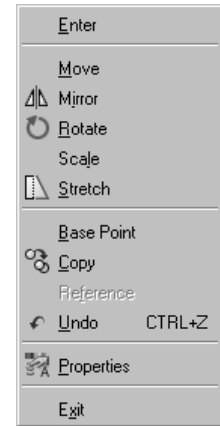
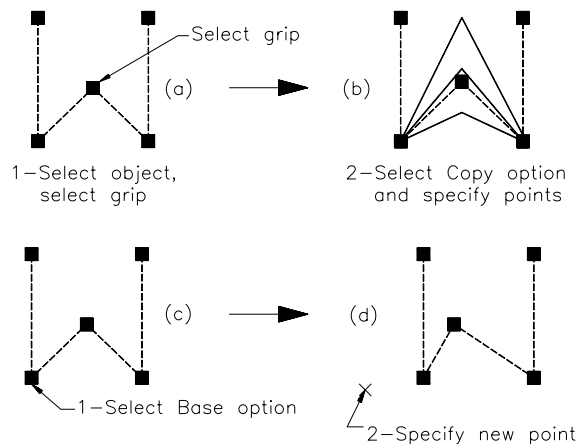

Figure 6-8 Shortcut menu with editing options
Figure 6-9 Using the **Copy** and **Base point** options of the **Stretch** mode
5. Select the grip where the two lines intersect. Right-click to display the shortcut menu (Figure 6-8) and choose the **Copy** option. Select the points, as shown in Figure 6-9(a). Each time you select a point, AutoCAD will make a copy Figure 6-9(b). You can also specify stretch points by entering the numerical value in the dimensional input boxes in the drawing area. If you press the CTRL key when specifying the point to which the object is to be stretched, without selecting the copy option, then also AutoCAD allows you to make multiple copies of the selected object. Also, if you press the CTRL key again
6. Make a copy of the drawing, as shown in Figure 6-9(c). Select the object, and then select the grip where the two lines intersect. When AutoCAD displays the ****STRETCH**** prompt, choose the **Base Point** option from the shortcut menu or enter B at the Command prompt. Select the bottom left grip as the base point, and then give the displacement point, as shown in Figure 6-9(d).